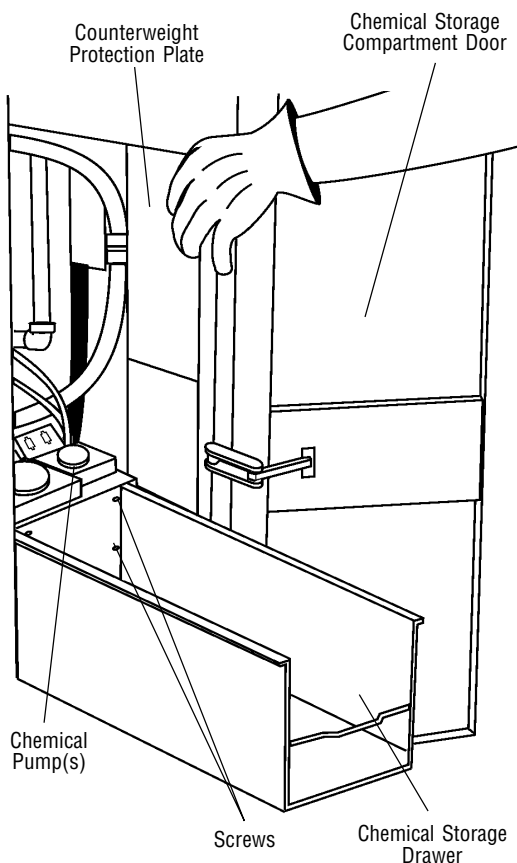

Figure 2-16. Pull Storage Drawer Out and Remove Counterweight Protection Plate
- b. Locate chemical pump(s) attached to back of chemical storage drawer (see Figure 2-16).
- d. Remove four screws attaching back of the chemical storage drawer to the lower pump support (see Figure 2-16).
- g. Slide counterweight protection plate up to unlock plate from the counterweight box guides (see Figure 2-16). Pull plate down and out of the storage compartment.